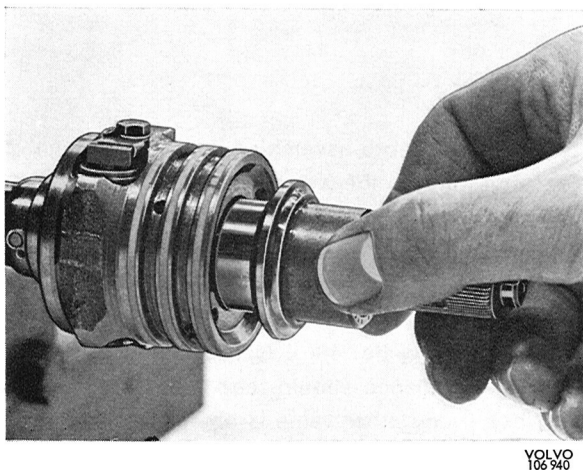

Fig. 6-85. Checking bearing
1. Install the needle bearings (61) in the bearing sleeve (60) and test it on the worm spindle (Fig. 6-85). The sleeve should turn easily without any noticeable play. If there is any noticeable play, test with thicker needles in the needle bearing. These are available in four sizes with a difference between each of $2\mu\text{m}$ (.002 mm = .0008"), see "Specifications". Bearing sleeves are available with external diameter 28.0 mm (1.102") and 28.015 mm (1.103"). Use tool 2481 for installing the sleeve.